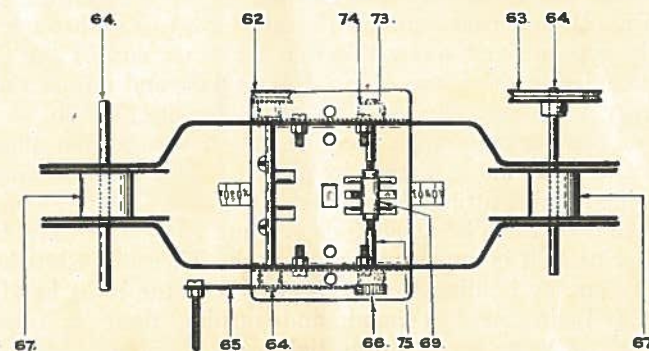
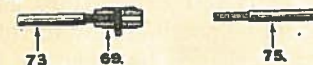

Fig. 2.
Fig. 2A.
2. Now turn the assembled parts over and proceed to mount the Axle Rods, together with their respective Pulleys, etc., in the positions shown in Fig. 2. All Gear Wheels, Pulleys and Collars are provided with Set Screws for securing to axles, and when secured, axles should rotate easily with the minimum of end play.
Fig. 2a shows details of parts necessary for the Claw Axle. A Threaded Rod (73) is screwed into one end of the Claw (69). Insert this combined part into its hole in the Mechanical Stand (see Fig. 2), and pass another Threaded Rod (75) through hole directly opposite and screw this into the other end of the Claw, thus completing the Claw Axle. Rotate axle and adjust claw if necessary with Screwdriver (70) as shown in Fig. 2b, so that point of claw engages with the perforations in the film allowing the film to move along picture by picture. This position must be maintained whilst fitting Gear Wheel (66) and Collar (74) firmly to the ends of the Threaded Rods (73 and 75). The Claw being in adjustment, it is important to screw the Threaded Rods home. This is done by holding Gear Wheel (66) in the right hand and Collar (74) in the left hand, and turning these in opposite directions so as to screw up as tightly as possible.
Fig. 2 is self explanatory as regards assembly of spools, etc. It should be possible now to rotate claw spindle easily by turning Gear Wheel (65) by means of its handle (1in. Bolt) so that film passes downwards through Gate Pad, picture by picture. To complete the assembly, fit a Spring Band (70) round the two Pulleys, which must be in line.
- (b) The Claw Parts (No. 69, 73 and 75, Fig. 2A) have now been superseded by a complete claw. This is held in place on the shaft by means of a set screw and should be so adjusted on the shaft that the tooth of the claw is in the exact centre of the middle slot on the bridge and engages with the film perforation.